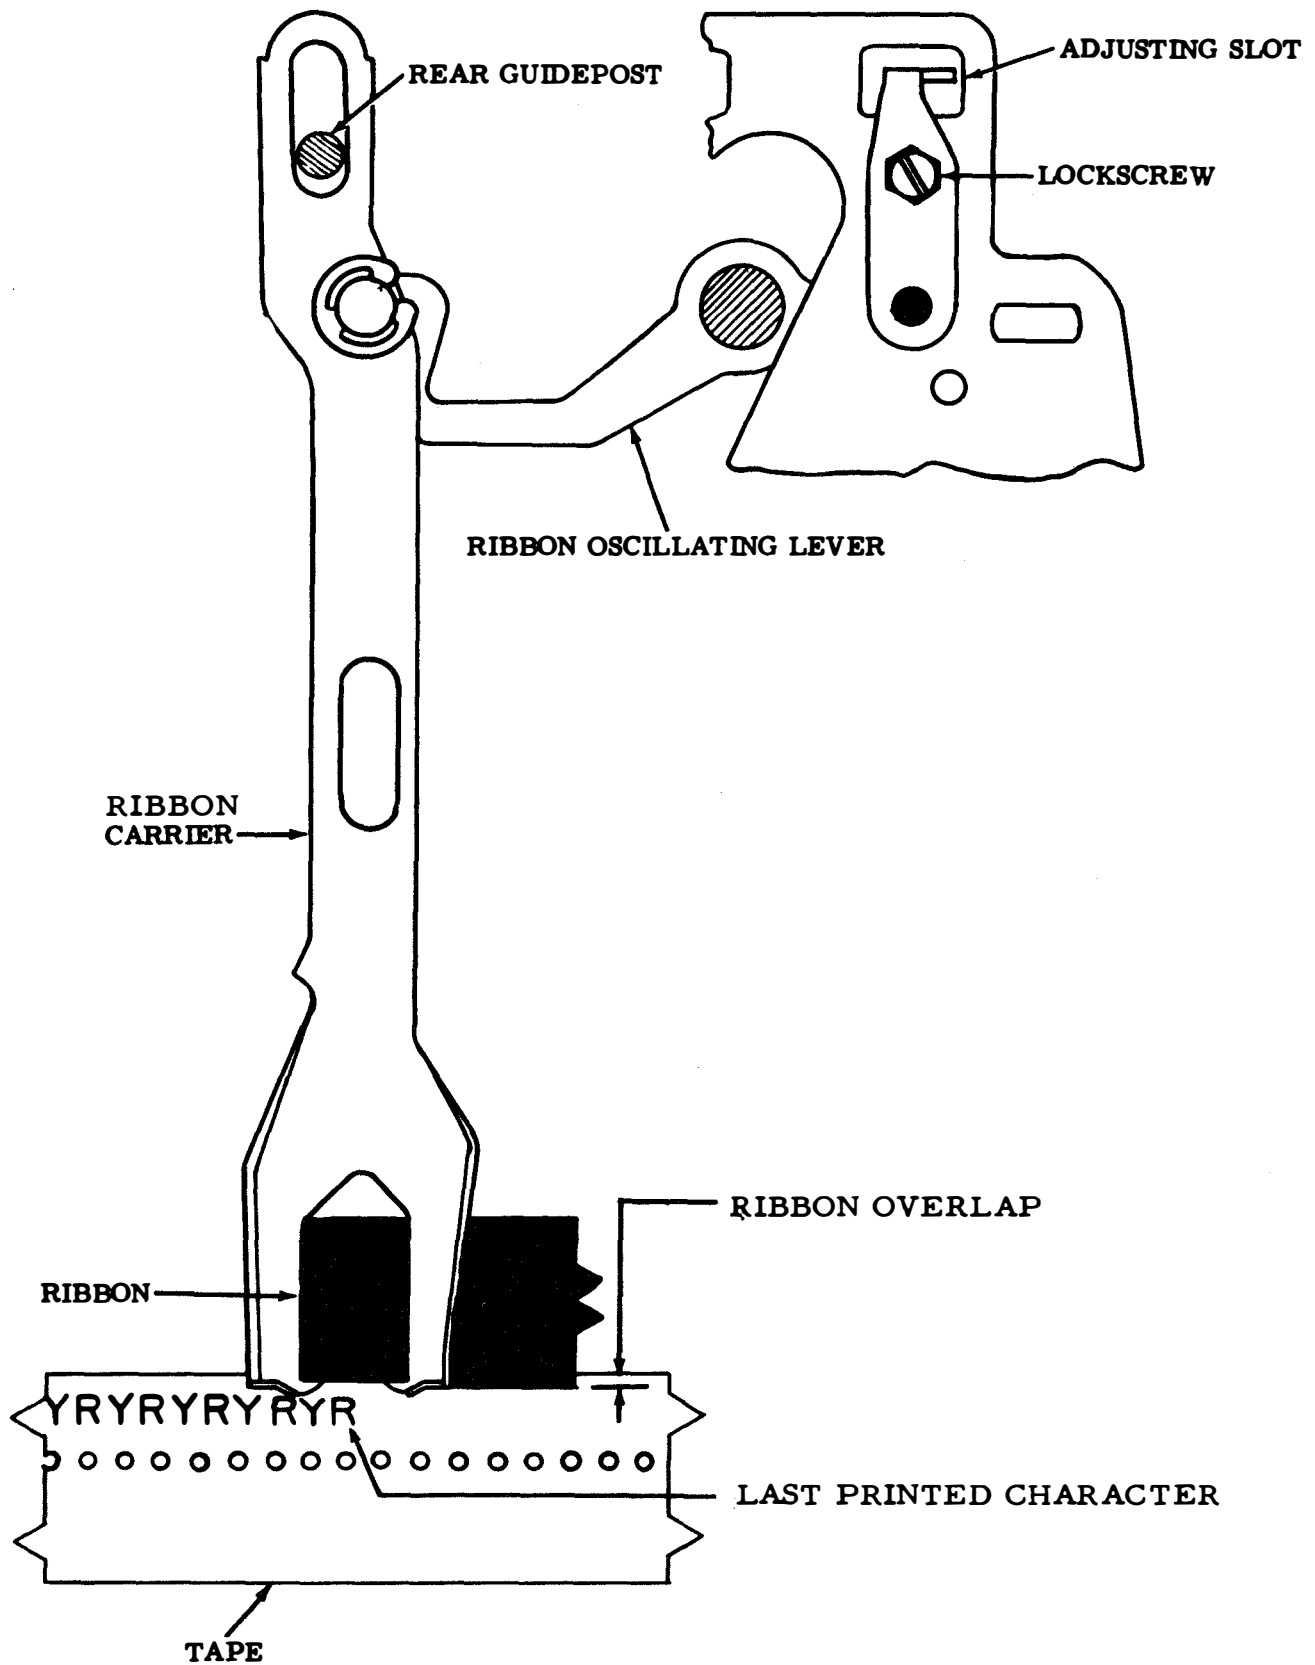

Figure 6-96. Ribbon Carrier For Chadless Tape - Top View
(1) Ribbon Carrier. Adjust as follows:
- (a) Refer to figure 6-96.
(2) Type Wheel (Preliminary). Adjust as follows: